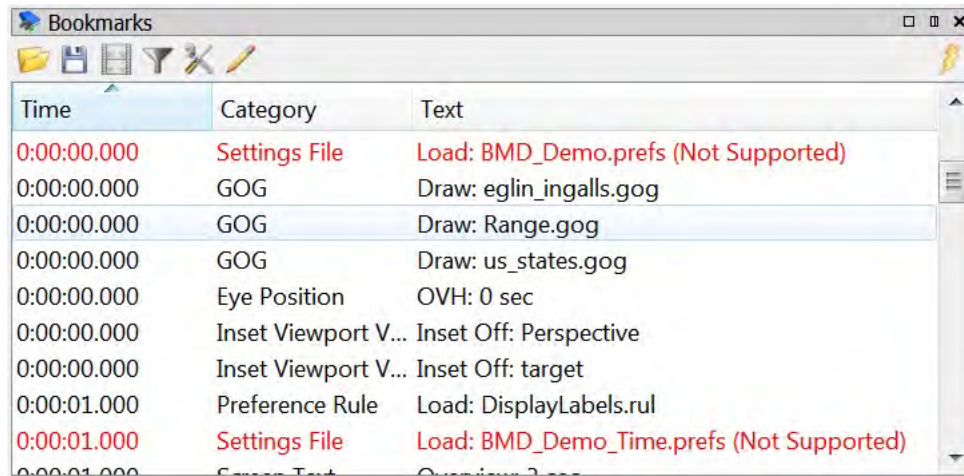

Figure 5.32: Bookmarks Dialog
- Unsupported bookmark events and events with invalid time range are highlighted in red, shown in Figure 5.32.